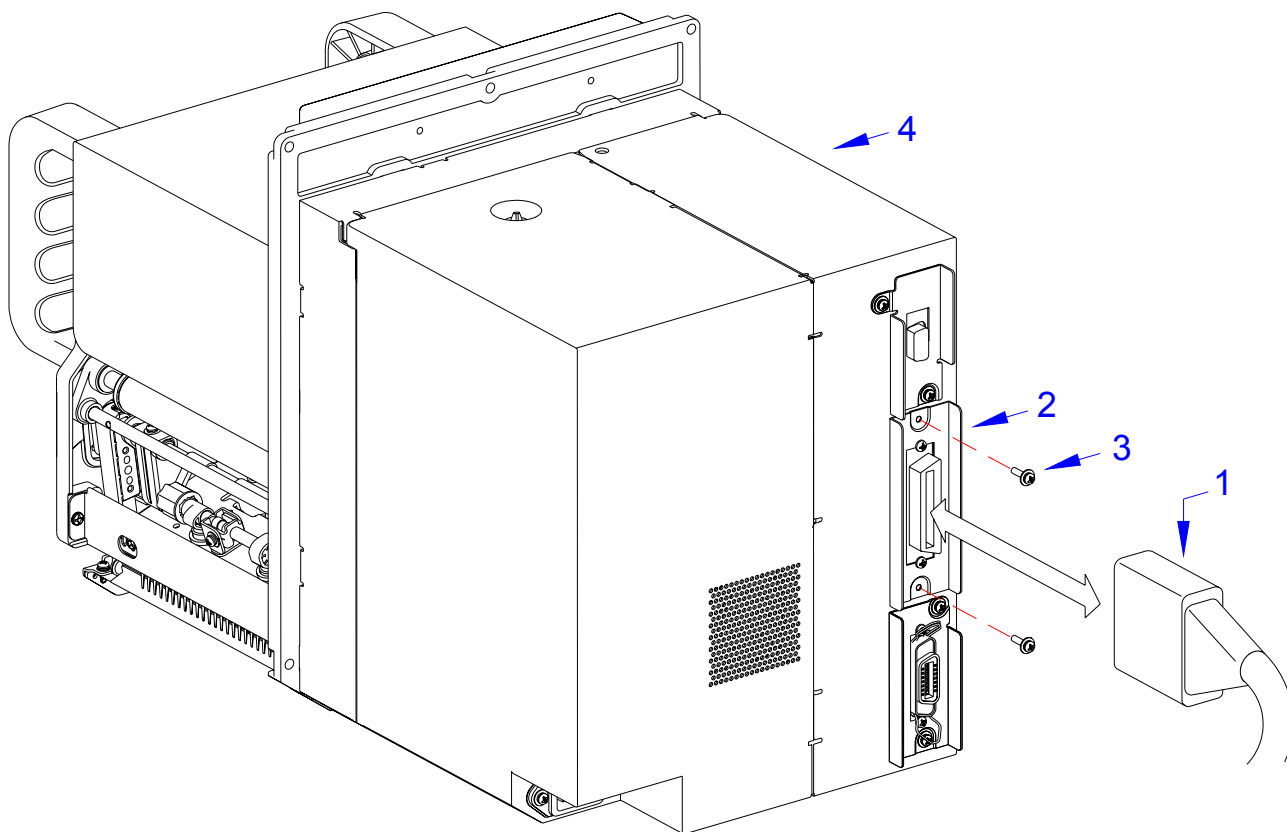

Figure 6-3, Interface Board Replacement
2. Disconnect interface cable (1, Figure 6-3) from defective interface board (2).
3. Remove two screws (3) securing defective interface board (2) to printer (4).
4. Insert replacement interface board (2) into printer (4) and secure using two screws (3).
5. Connect interface cable (1).